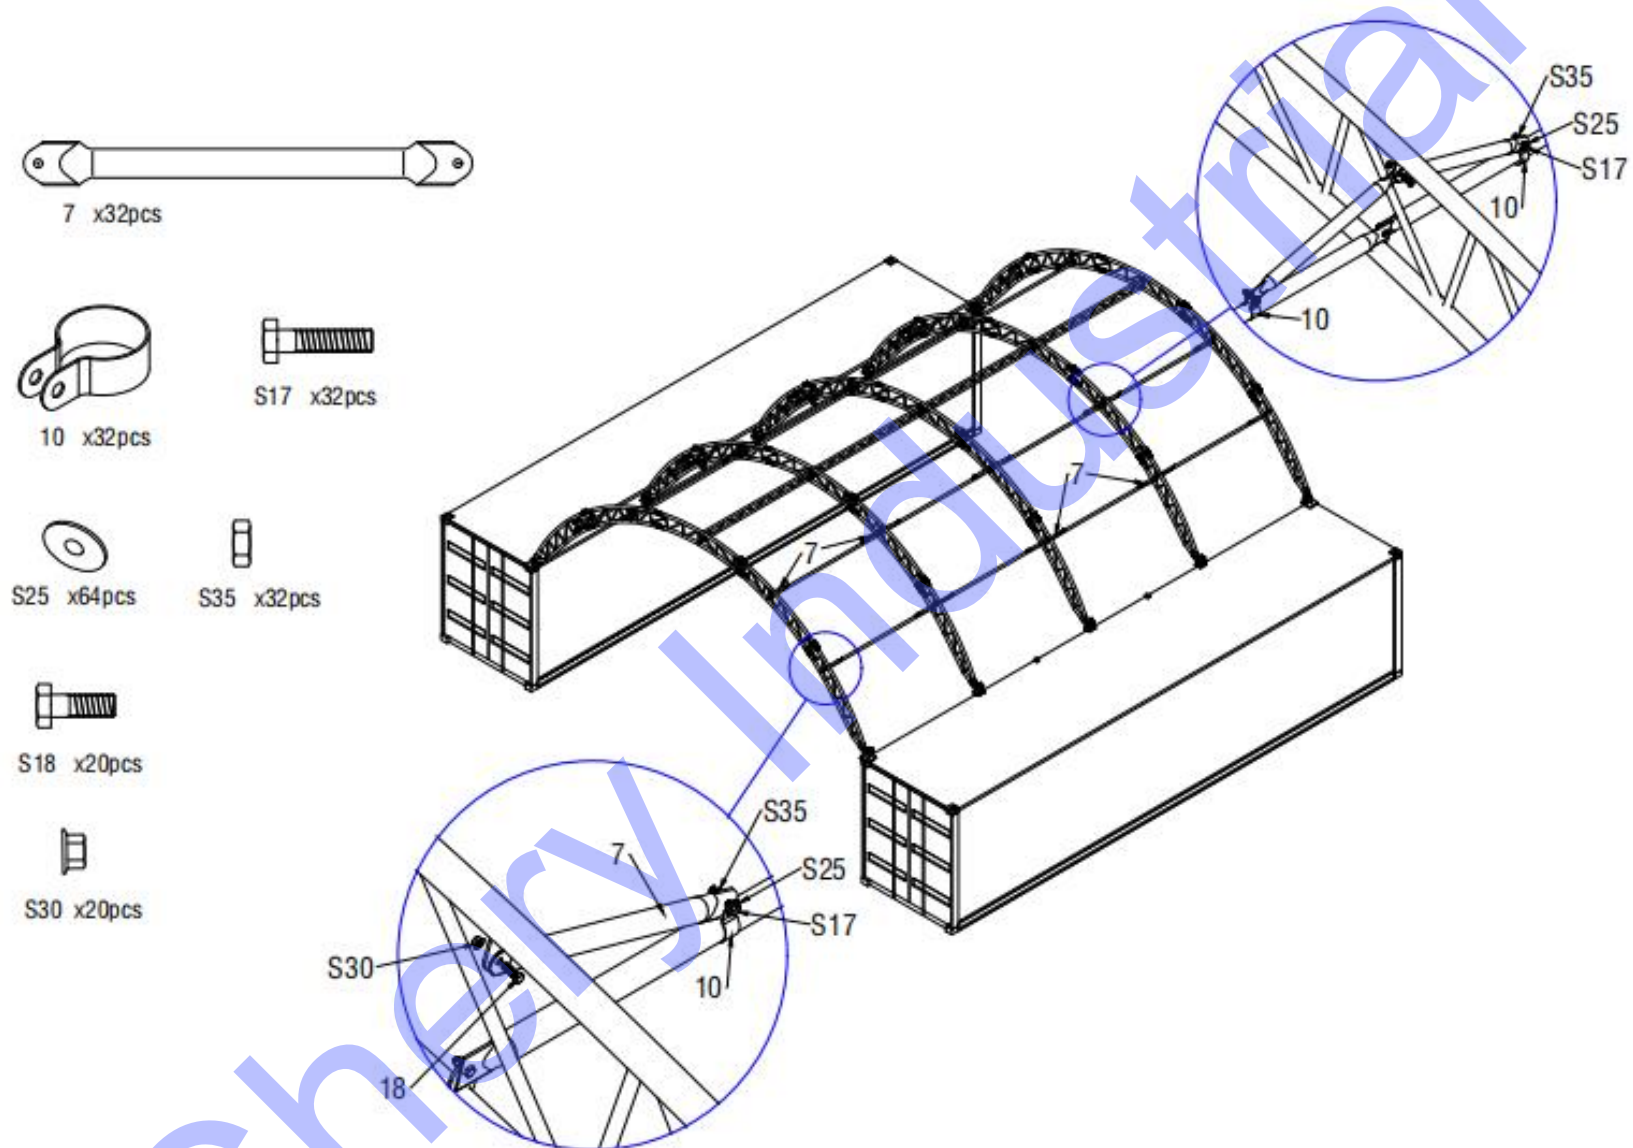

Figure 7
2.5. Connect the Diagonal Support Tube For purlin (Part no.7) to the arch and purlin (Part no.6) by bolt M10x30mm (Part no.S18) and clips (Part no.10) as below Figure 7 shows.